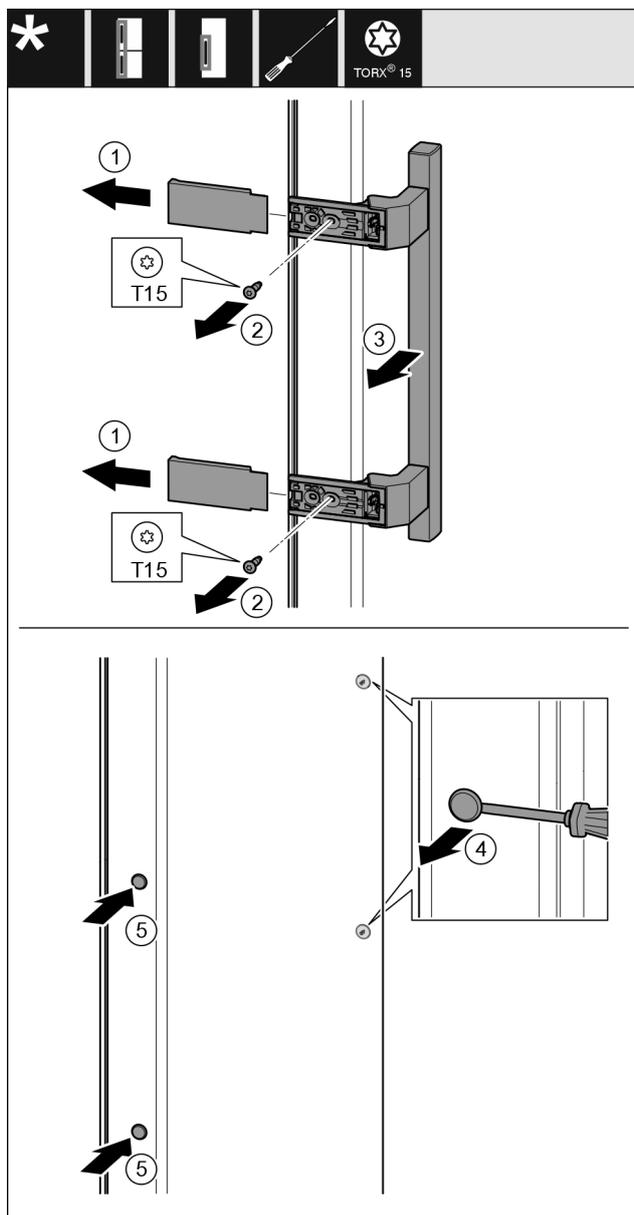

Fig. 46
- ▶ Remove the cover Fig. 46 (1).
- ▶ Unscrew screws Fig. 46 (2) with screwdriver.
- ▶ Remove the handle Fig. 46 (3).
- ▶ Use a slotted screwdriver to lift the side plug Fig. 46 (4) carefully and pull it out.
- ▶ Re-insert the plug Fig. 46 (5) on the other side.